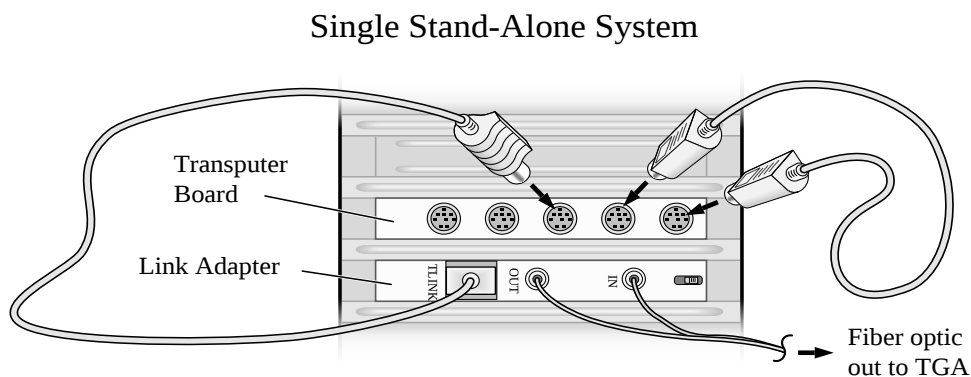

Figure 2-2. Link Adapter Cable Connections
- a) For older TGA100s, connect the 18-inch cable with one 8-pin mini-din connector and one RJ45 telephone-type connector (CSI PN 10699) between the link adapter board and the third (center) connector on the PC transputer board. Connect the cable with two 8-pin mini-din connectors (CSI PN 7917) between the two adjacent connectors on the transputer which are farthest from the PC's mother board, as shown in Figure 2-2.